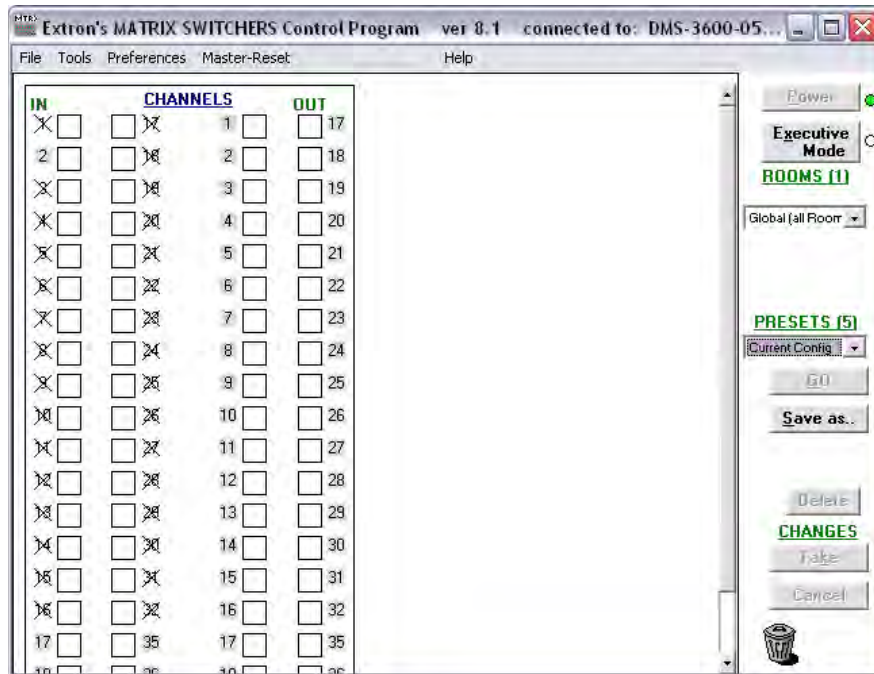
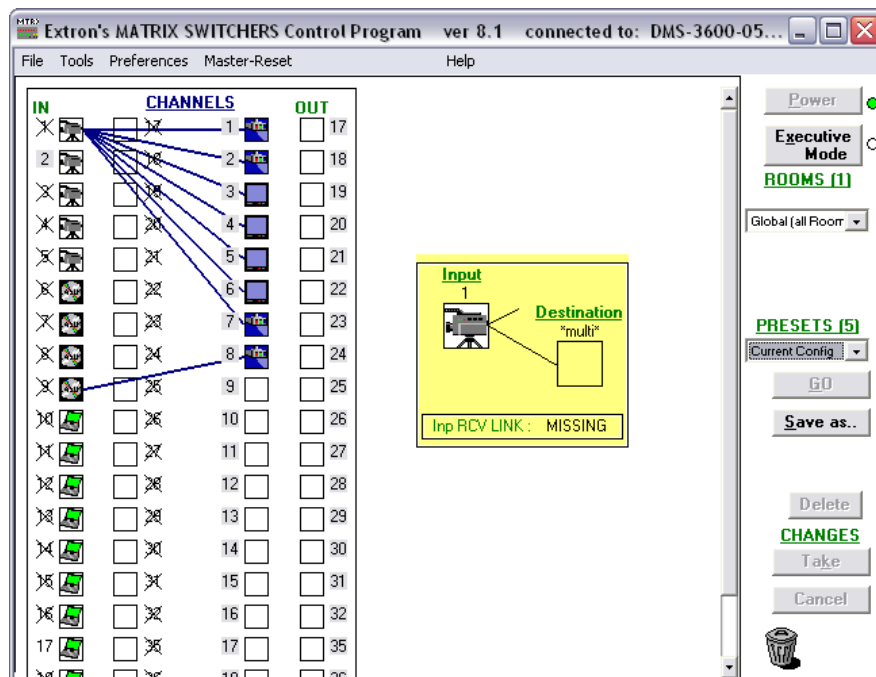

Figure 36. Extron Matrix Switchers Control Program Window
Figure 37. Sample Control Program Window, with Ties and Icons
- Click **OK**. The Extron Matrix Switchers Control Program window (see figure 36 and figure 37 on page 66) opens, displaying the current configuration of the attached matrix. Proceed to Using the program on the next page.
If you logged on with the administrator password, the program connects you to the matrix switcher with all of the administrator rights and privileges. The Extron Matrix Switchers Control Program window (see figure 36 and figure 37 on the next page) opens, displaying the current configuration of the attached matrix. Proceed to “Using the program,” below.
- For quick display of information on a specific input or output device, position the pointer tool over that device in the control program window. The program opens a pop-up that details the connections to that device and the signal status (present or missing) input from or output to that device (see the inset box in figure 37 on the next page).